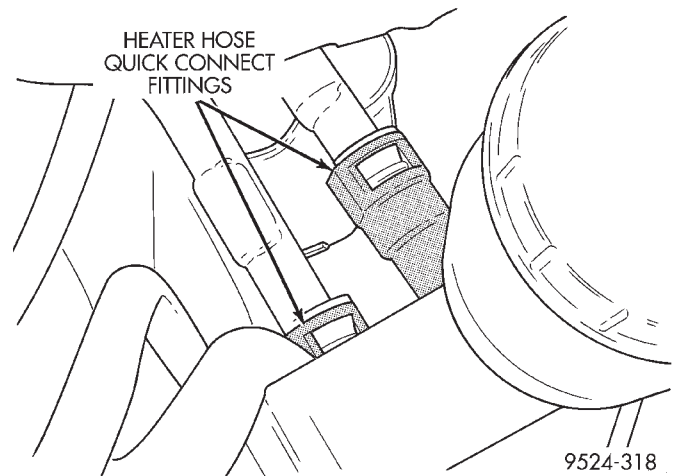

Fig. 57 Heater Hose Connection At Engine
- (1) Drain engine cooling system. Refer to Group 7, Engine Cooling.
- (2) Using thin slide-jaw pliers, pinch quick connect fitting in, of hose to be removed (Fig. 57).